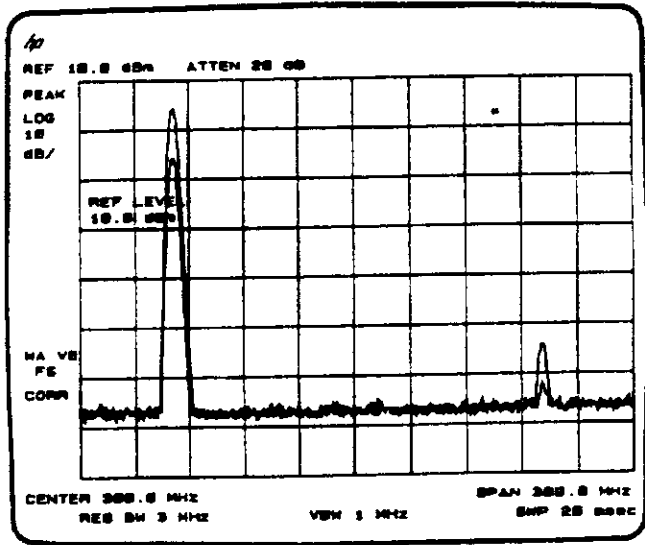

Figure 2-13
3. To increase the RF attenuation by 10 dB, press **AMPLITUDE**, **[ATTEN]**, and the up step key once. See Figure 2-13. (If the reference level changes, return the reference level to its original position.)